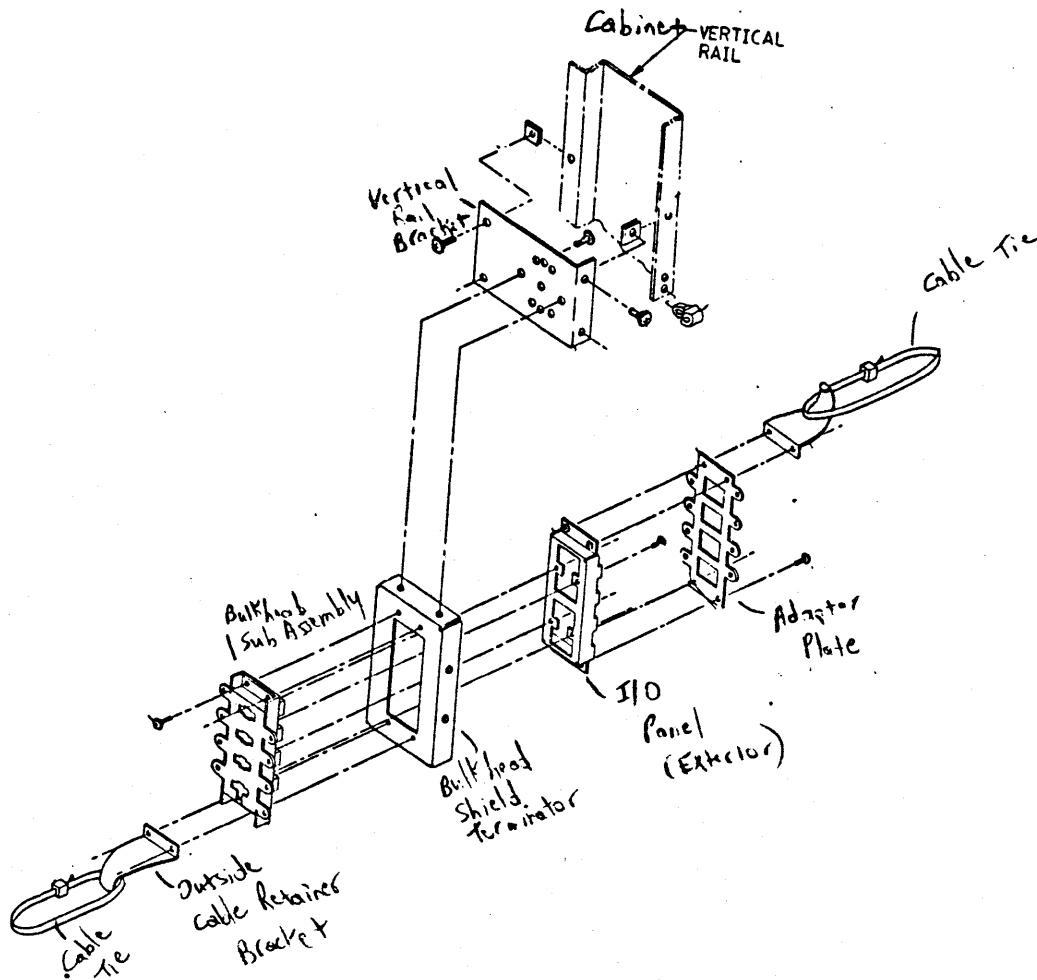

Figure 2-13: Alternate Bulkhead Assembly
Use the following procedure only if it is impossible to mount the bulkhead to an I/O panel using a KDA50-QA. Refer to Figure 2-13.
5. Assemble the bulkhead assembly as shown in Figure 2-13.